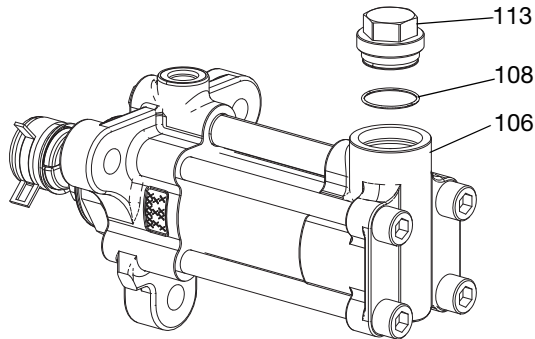

FIG. 5
2. Remove inlet hose and drain inlet housing (106).
- Remove inlet valve cap (113) from inlet housing (106), and remove O-ring (108). See FIG. 5.